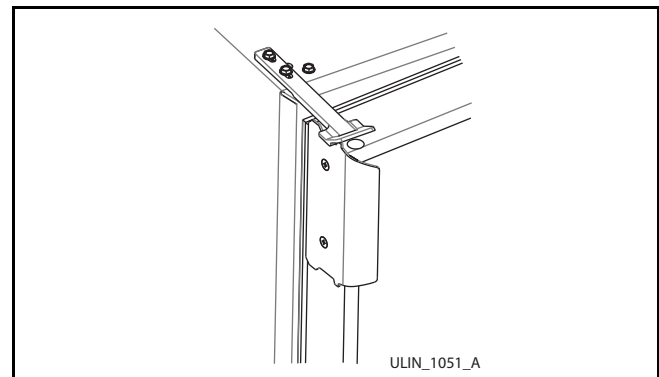

Figure 6
- If the unit will be shut off for five days or more, open the door so the door latch engages the custom side handle to keep the door open (**Figure 6**).